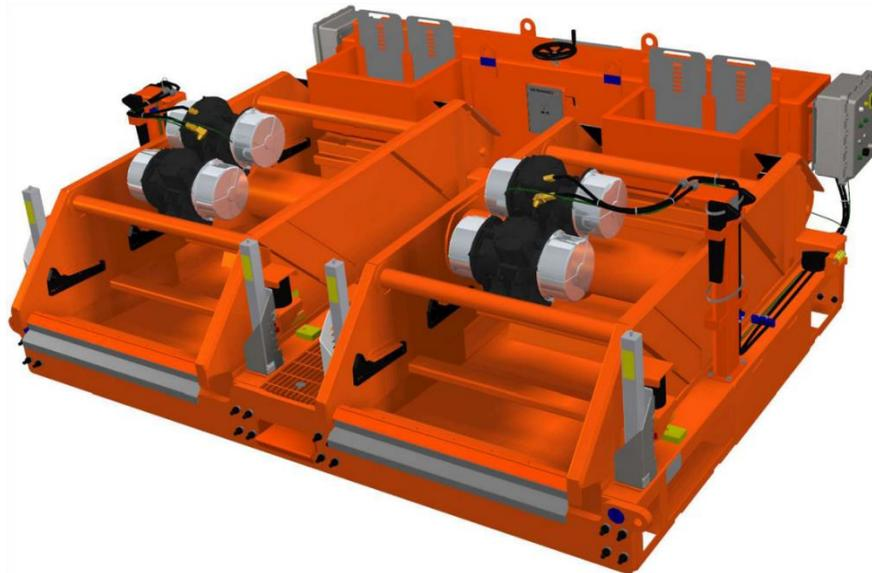
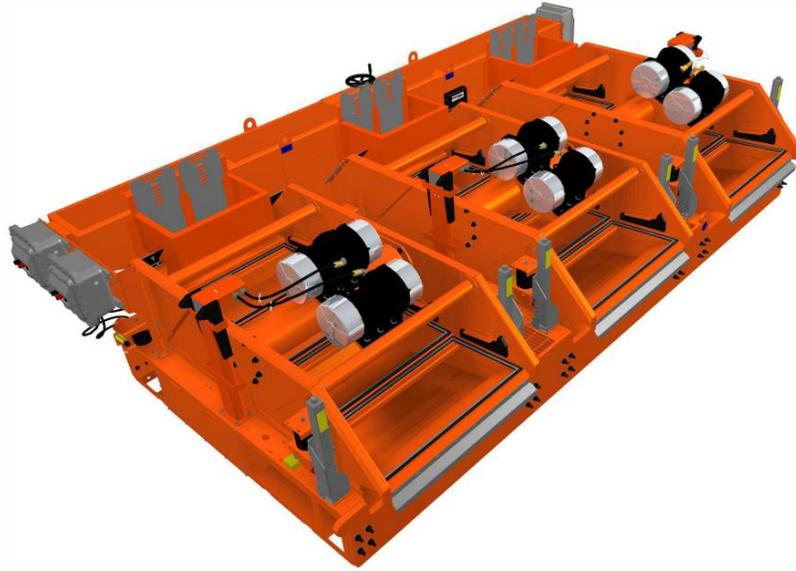

Figure 5. MONGOOSE PRO Dual Shaker with Common Possum Belly and Knife Gate
Figure 6. MONGOOSE PRO Triple Shaker with Common Possum Belly and Knife Gate
- The knife gate is controlled by a single rotating hand wheel (Refer to Figure 5 & Figure 6).